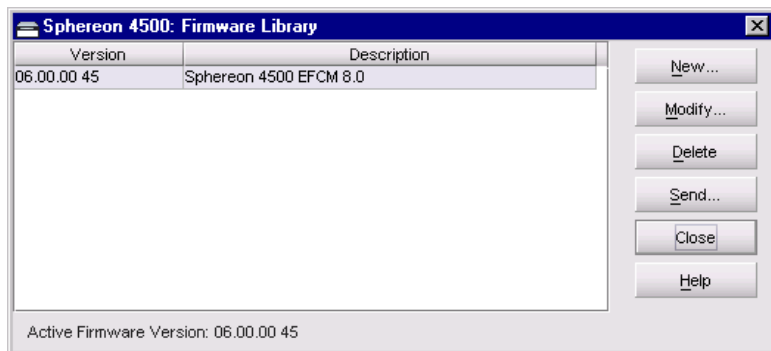

Figure 4-62 Firmware Library Dialog Box
4. Select the *Firmware Library* option from the *Maintenance* menu. The *Firmware Library* dialog box displays (Figure 4-62).